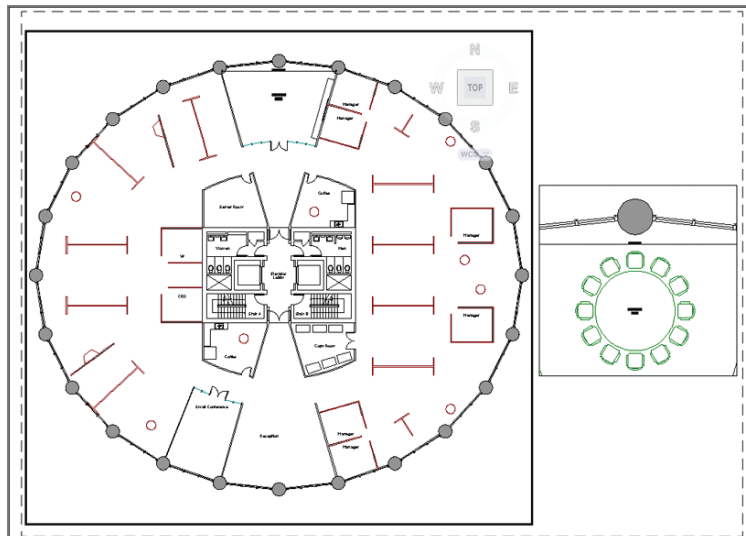

FIGURE 13.20 Furniture is visible in the viewport on the right but not in the left viewport, whose layer properties have been overridden.
- Double-click on the paper outside the viewport to switch back into paperspace. The furniture and furniture systems disappear from the current viewport, but the Conference Room round table is still visible in the viewport on the right of Layout2 (see Figure 13.20). Close the Layer Properties Manager.